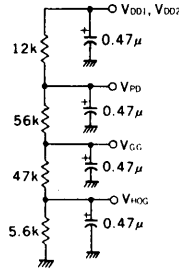

Fig. 4. Recommended Circuit for Bias Setting of VDD1, VDD2, VPD, VGG, and VHOG.
(Some of the characteristics shown below are determined by the recommended circuit in Fig. 4. Refer to Note 1 through 8.)
(Some of the characteristics shown below are determined by the recommended circuit in Fig. 4.)
- V_{PD} , V_{GG} and V_{HOG} should be produced from V_{DD1} , and V_{DD2} . Resistance precision should be $\pm 5\%$. See Figs. 4 and 5.